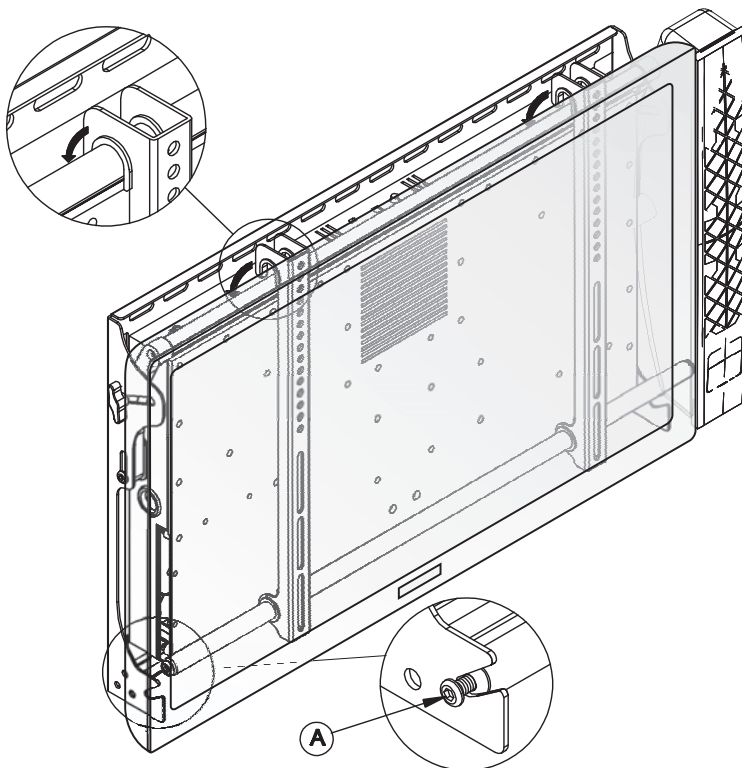

Figure 11 - Attach TV Mount to Wall Mount
Hang the pre-assembled TV unit on the pole and clip the screws (A) into the lower channel of the Wall Plate and tighten on both sides when the TV brackets are in place (Figure 11).